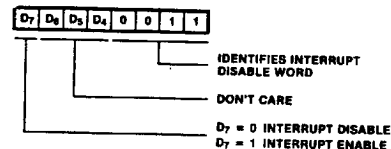

Figure 13: PIO Interrupt Disable Word
**Interrupt Disable Word (Figure 13).** This word can be used to enable or disable a port's interrupts without changing the rest of the port's interrupt conditions.